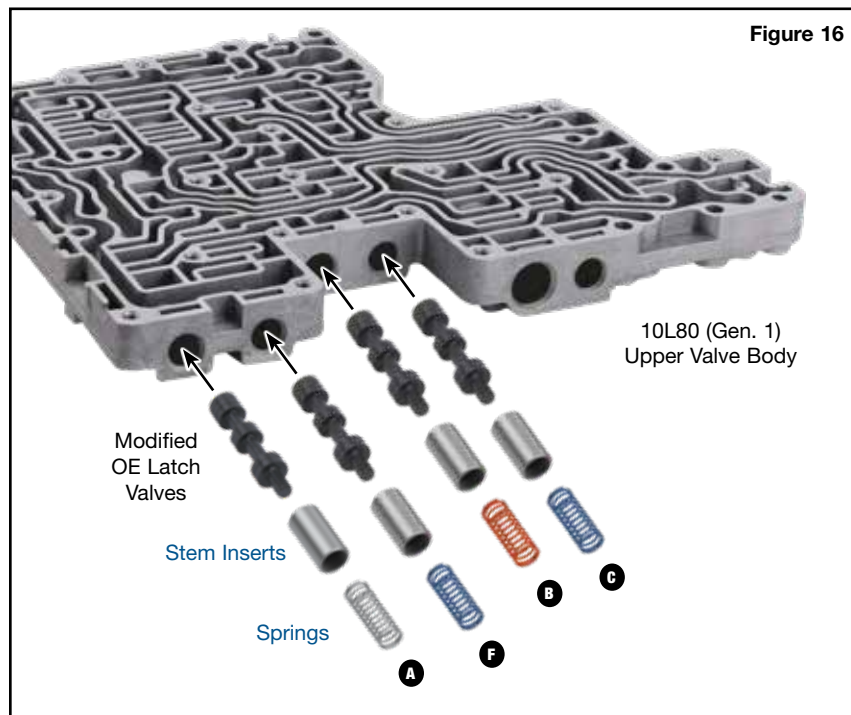

Figure 16
- Install one modified valve into each A, B, C & F bore (**Figure 16**).